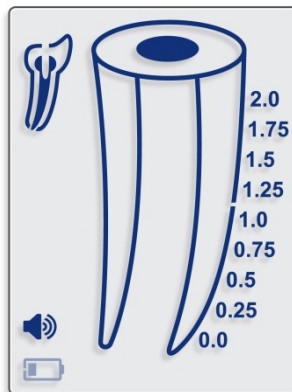

Fig. 2
- 7.2.2. When the battery level is low, the flashing Low Battery indicator will appear on the screen (Fig.2). **S5 Apex Locator** will continue normal operation even with a low battery, but the battery should be replaced before it loses all power.